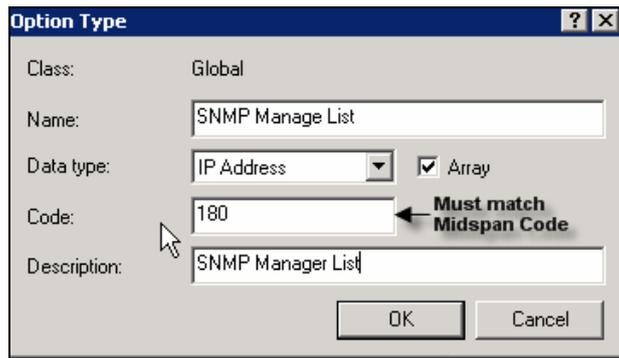

Figure 4-26: SNMP Manager Option Type
- In the Option Type window (Figure 4-26):